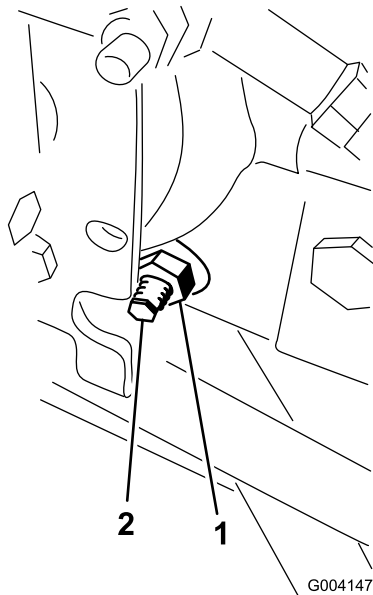

Figure 89
3. On the right side of the hydrostat, loosen the locknut on the traction-adjustment cam (Figure 89).